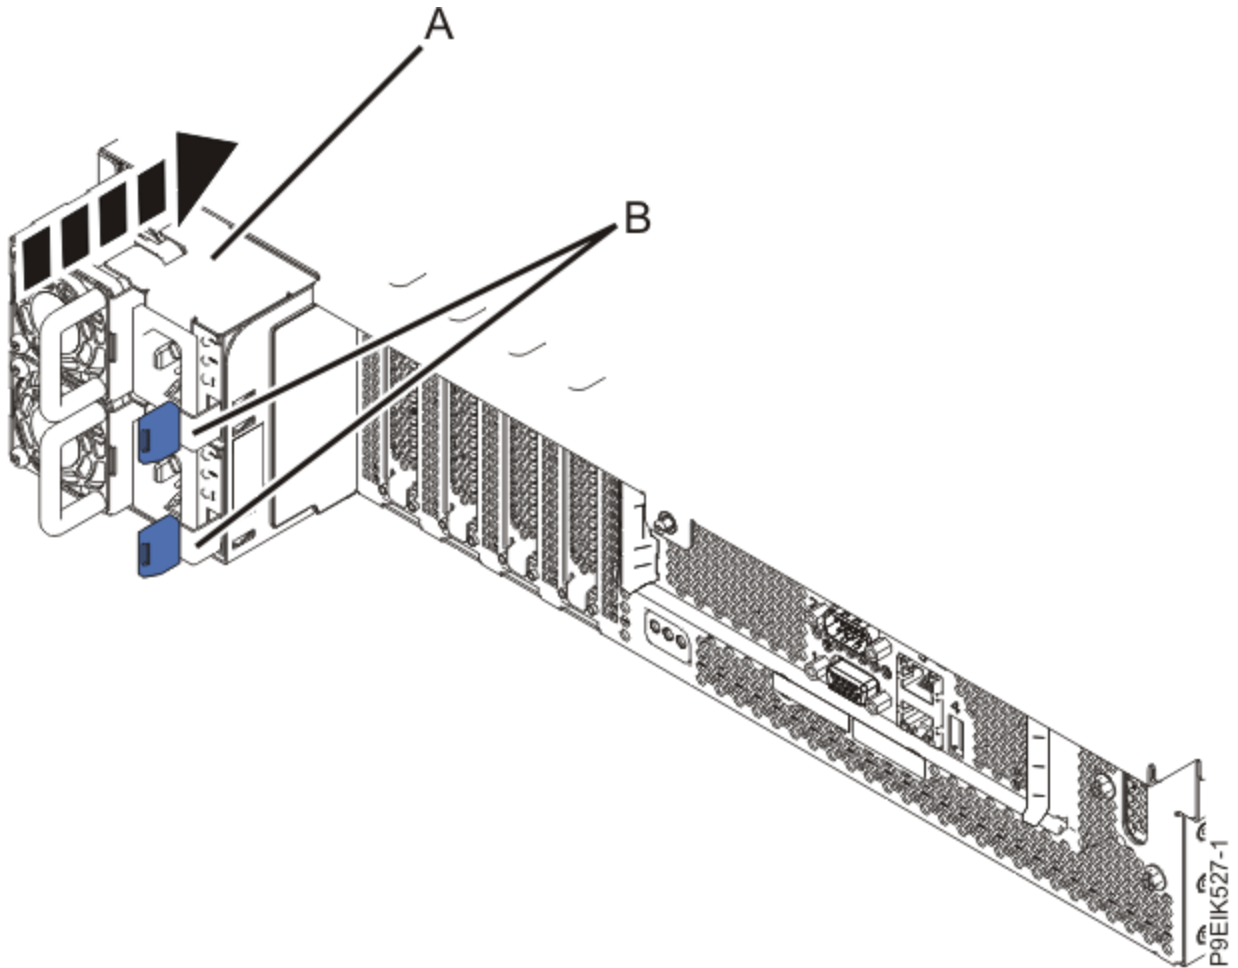

Figure 101. Replacing the power supplies in the system
2. Replace the power supplies as shown in Figure 101 on page 114.